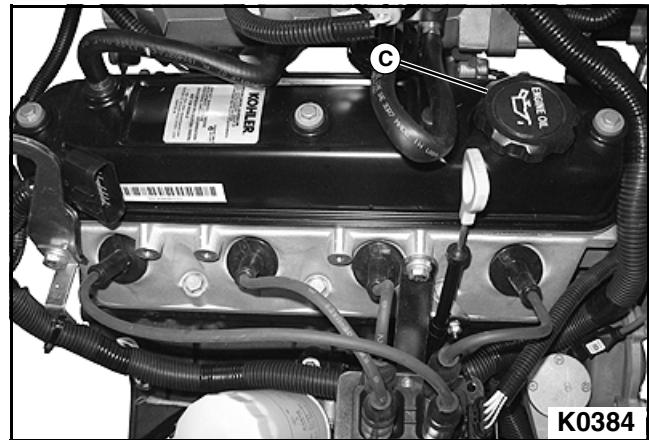

Figure 5-3
6. If the oil level is below L, check for leaks. If no leaks are found, open the oil fill cap (C). Wipe the oil fill cap clean, and add oil up to the F mark. See Figure 5-3.